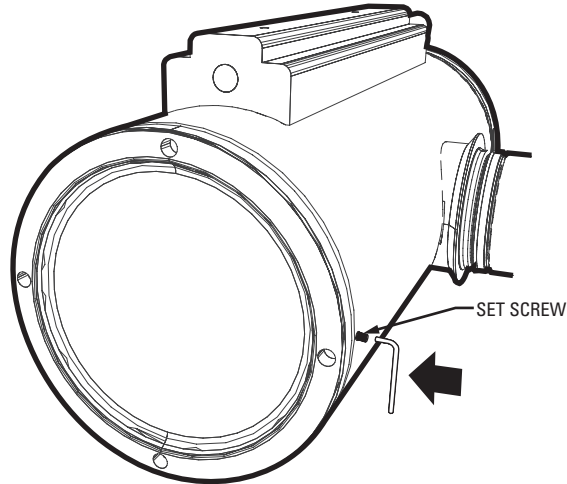

Figure 1. Loosen Setscrew
1. Refer to Figure 1. Loosen the set screw at the back of the enclosure with the provided 1.5 mm Allen wrench.